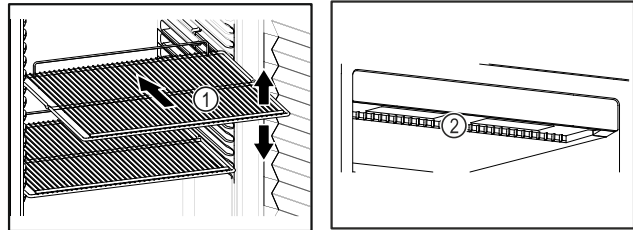

Fig. 11
- Ventilation slots Fig. 11 (2) for recirculation fan in the interior must be kept clear.